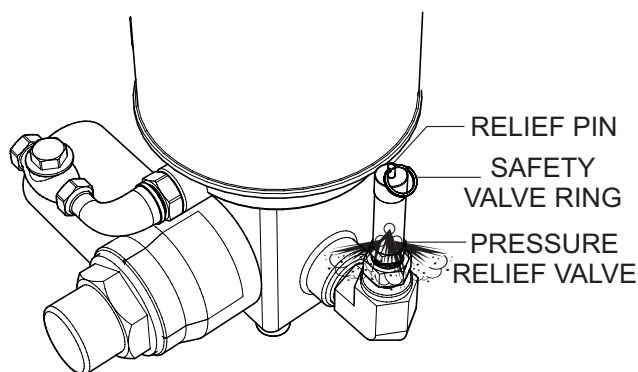

Figure 67. Pressure Relief
3. Next, pull the compressor **safety valve ring** (Figure 67) and verify that the air pressure is released through the valve.